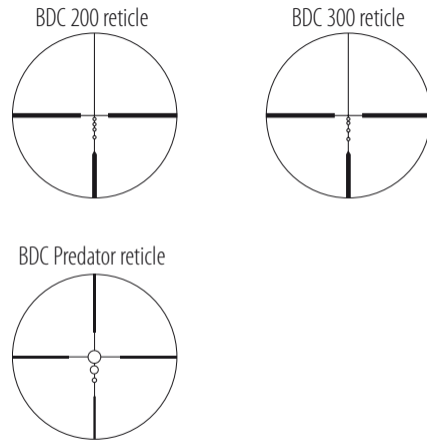

Fig. 3
(1) Focusing
- 1 Look through the eyepiece with your eye positioned about 4 in. (10 cm) away from the eyepiece to see each reticle (Fig. 3). Be sure your eye is positioned with proper alignment and with proper eye relief, otherwise the view will “black out.”